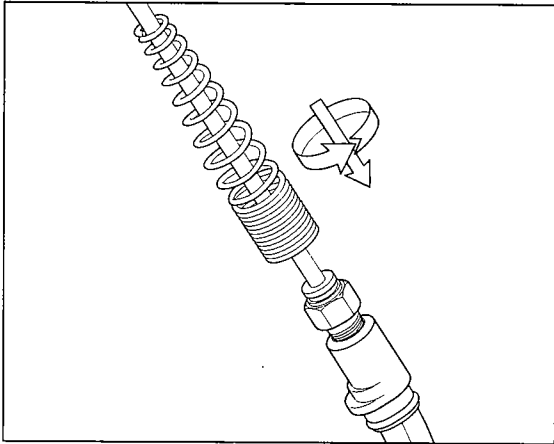

Figure 13
2. Position the Strain Relief (Item 66) on the mandrel collection hose as shown and attach the hose to the Mandrel Slide Assembly. (See Figure 13) Slide the Strain Relief in place and push fit (while rotating clockwise) onto the Mandrel Slide Assembly.